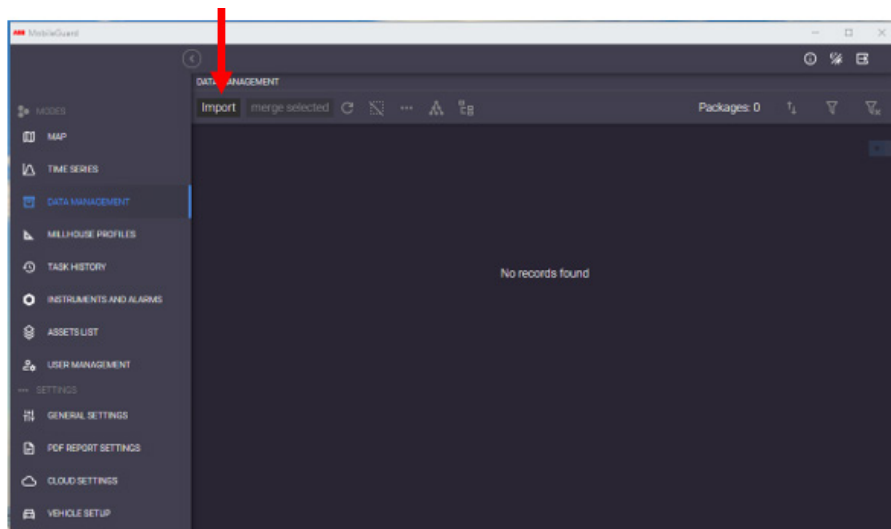

Figure 133 Click Import
- 3 Click **Import**. (Figure 133)